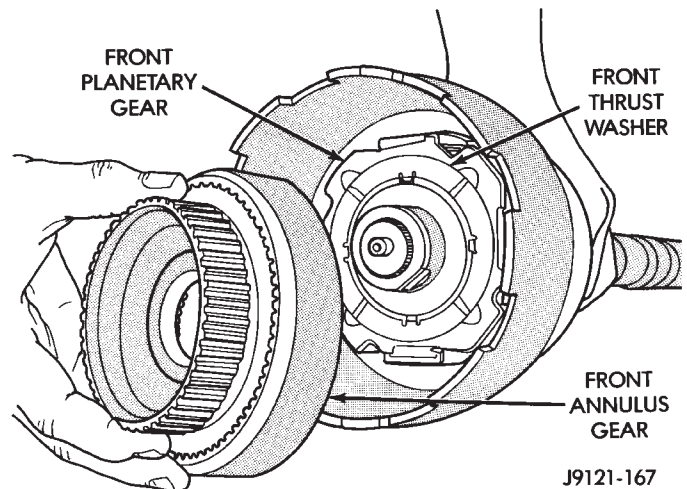

Fig. 162 Installing Front Planetary And Annulus Gears
(14) Install front planetary gear on output shaft and in driving shell (Fig. 162).
(15) Install front thrust washer on front planetary gear. Use enough petroleum jelly to hold washer in place and be sure all four washer tabs are seated.
(16) Assemble front annulus gear and support, if necessary. Be sure support snap ring is seated.
(17) Install front annulus on front planetary (Fig. 162).